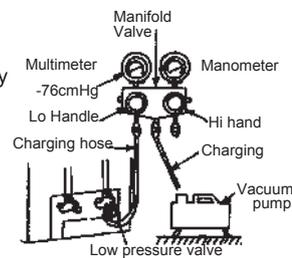

Fig.10
8. Tighten bonnet of low-pressure valve. (As shown in Fig.10)